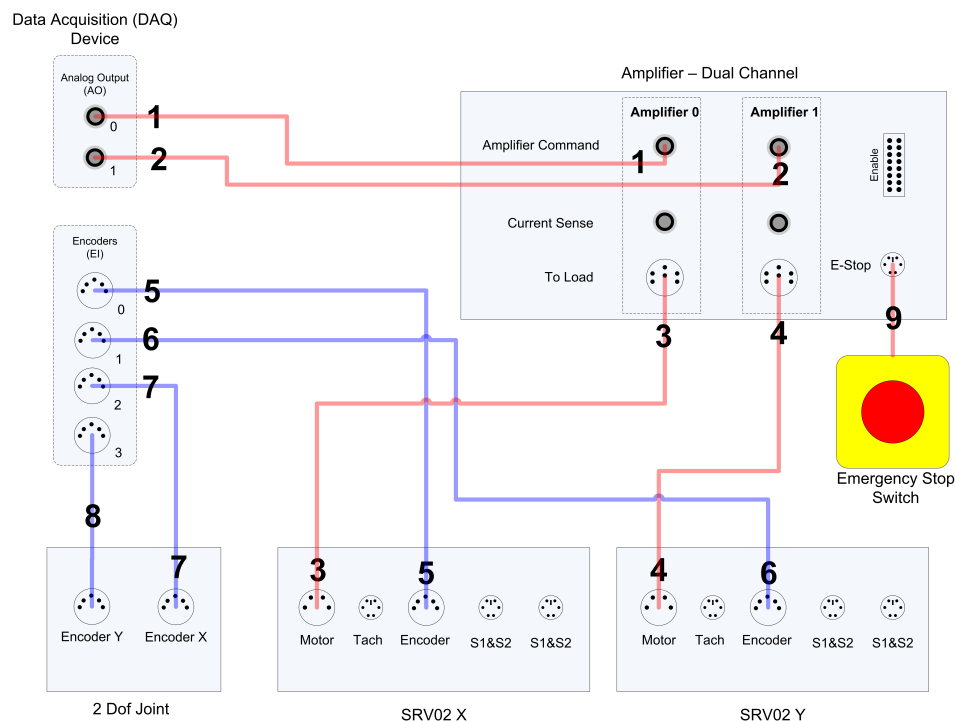
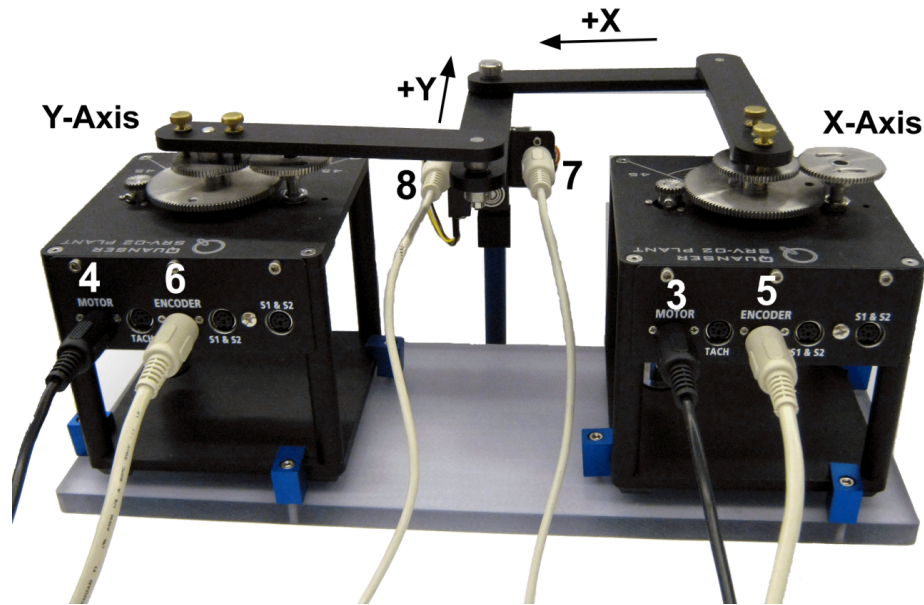

Figure 5.1: 2 DOF Gantry Connections
Figure 5.2: Connections on the 2 DOF Gantry
This section describes the typical connections used for to connect the SRV02 and 2 DOF Gantry system to a data acquisition (DAQ) device and a power amplifier. The connections are given in Table 5.2 and illustrated in Figure 5.1 and Figure 5.2. The detailed wiring procedure is given below.
3. Connect one end of the 2xRCA to 2xRCA cable from the Analog Output Channel #0 on the data acquisition (DAQ) device to the Amplifier Command 0 connector on the amplifier, that will be connected to SRV02 X. See cable #1 shown in Figure 5.1. This carries the attenuated SRV02 X motor voltage control signal, $V_{m,x}/K_{a,x}$, where $K_{a,x}$ is the amplifier X gain.
4. Connect one end of the 2xRCA to 2xRCA cable from the Analog Output Channel #1 on the data acquisition (DAQ) device to the Amplifier Command 1 connector on the amplifier that will be connected to SRV02 Y. See cable #2 shown in Figure 5.1. This carries the attenuated SRV02 Y motor voltage control signal, $V_{m,y}/K_{a,y}$, where $K_{a,y}$ is the amplifier Y gain.
5. Connect the 4-pin-stereo-DIN to 6-pin-stereo-DIN from To Load 0 on the amplifier to the Motor connector on the SRV02. See connection #3 shown in Figure 5.1 and Figure 5.2. The cable transmits the amplified voltage that is applied to the SRV02 X motor and is denoted $V_{m,x}$.
6. Connect the 4-pin-stereo-DIN to 6-pin-stereo-DIN from the To Load 1 on the amplifier to the Motor connector on the SRV02. See connection #4 in Figure 5.1 and Figure 5.2. The cable transmits the amplified voltage that is applied to the SRV02 Y motor and is denoted $V_{m,y}$.
7. Connect the 5-pin-stereo-DIN to 5-pin-stereo-DIN cable from the Encoder connector on the SRV02 X panel to Encoder Input # 0 on the data acquisition (DAQ) device, as depicted by connection #5 in Figure 5.1 and Figure 5.2. This carries the SRV02 X load shaft angle measurement and is denoted by the variable $\theta_{l,x}$.
8. Connect the 5-pin-stereo-DIN to 5-pin-stereo-DIN cable from the Encoder connector on the SRV02 Y panel to Encoder Input #1 on the data acquisition (DAQ) device, as depicted by connection #6 in Figure 5.1 and Figure 5.2. This carries the SRV02 Y load shaft angle measurement and is denoted by the variable $\theta_{l,y}$.
9. Connect the 5-pin-stereo-DIN to 5-pin-stereo-DIN cable from the X-Axis 2 DOF Joint Encoder connector to Encoder Input # 2 on the DAQ, as depicted by connection #7 in Figure 5.1 and Figure 5.2. This carries the X-Axis angle measurement and is denoted by the variable α_x .
10. Connect the 5-pin-stereo-DIN to 5-pin-stereo-DIN cable from the Y-Axis 2 DOF Encoder connector to Encoder Input #3 on the data acquisition (DAQ) device, as depicted by connection #8 in Figure 5.1 and Figure 5.2. This carries the Y-Axis angle measurement and is denoted by the variable α_y .